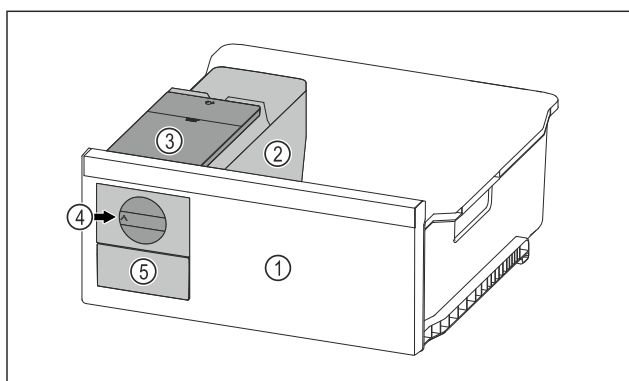

Fig. 74 Example illustration
- ▶ Turn the rotary knob Fig. 74 (4) clockwise as far as it will go.
- ▷ Ice cubes fall from the ice cube tray into the ice cube drawer Fig. 74 (5).